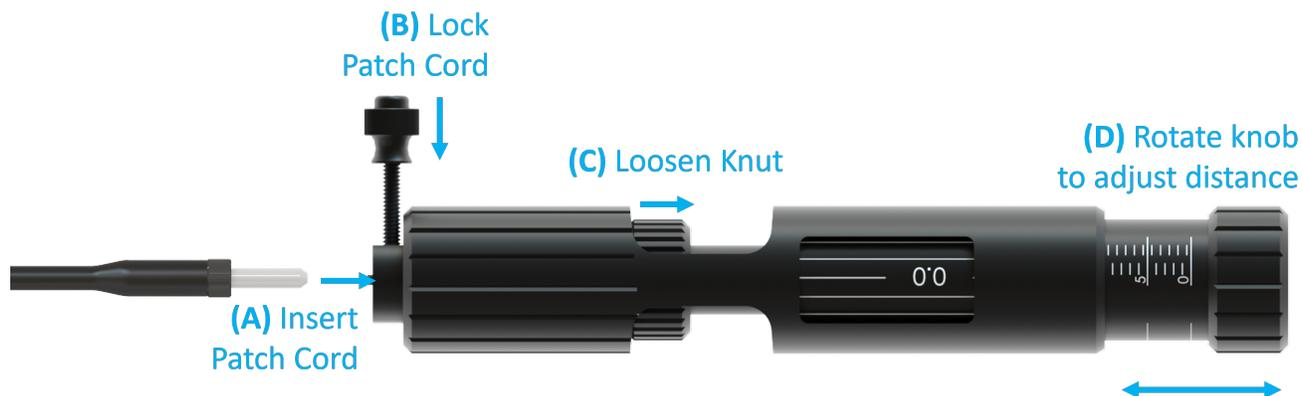

Figure 3.10: Use Calibration Sample as Reference for IRF
9. Remove the fiber from the animal and without changing the laser and gain settings, and connect the fiber to the *FluoPulse Calibration Sample* (Fig. 3.10, step A). Lock the fiber in place using the screw (Fig. 3.10, step B). If it's the first time using the system, start with the *Knob* (Fig. 3.10, step D) at 5mm. When adjusting the *Knob*, remember to first loosen the knut (Fig. 3.10, step C). The 5mm position sets the fluorescent calibration sample in the middle of the range (with 0mm setting the sample as close to the patch cord as possible).
13. Adjust the Calibration sample by rotating the *Knob* (Figure 3.10, D) so that amplitude matches exactly the animal signal amplitude in Step 8. DO NOT change the gain and laser settings (already optimized for the experimental animal).